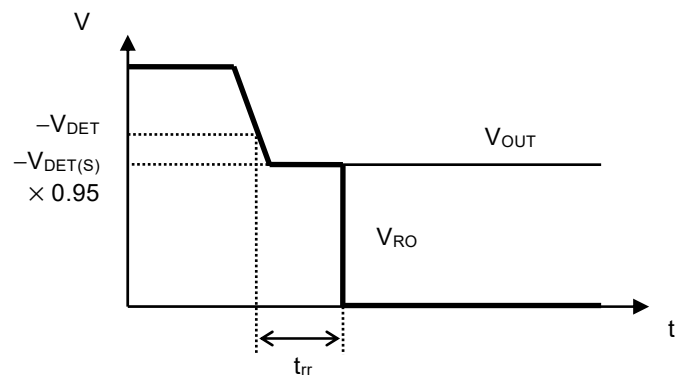

Figure 6 Reset Reaction Time
- \*4. The time from when VOUT falls below -VDET to when the RO pin output inverts (Refer to **Figure 6**). The time period from when VOUT changes to VOUT(S) → -VDET to when VRO reaches VOUT / 2.